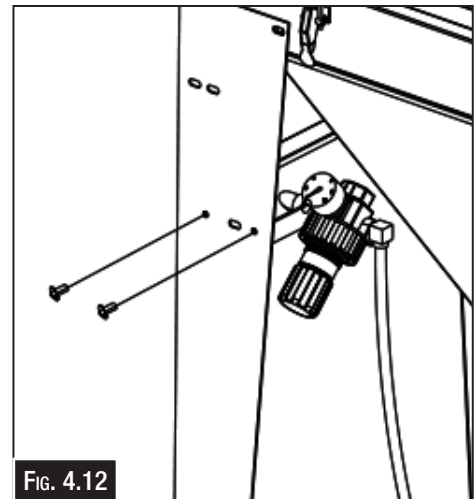

FIG. 4.12
14. Attach the bracket with the air pressure gauge and solenoid valve to the left front leg using the two screws and nuts provided. (Fig. 4.12)